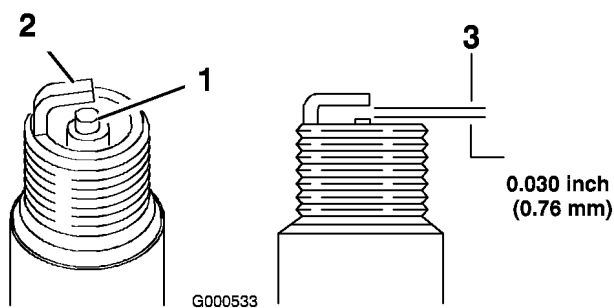

Figure 29
1. Look at the center of the spark plug(s) (Figure 29). If you see light brown or gray on the insulator, the engine is operating properly. A black coating on the insulator usually means the air cleaner is dirty.
2. Check the gap between the center and side electrodes (Figure 29). Bend the side electrode (Figure 29) if the gap is not correct.